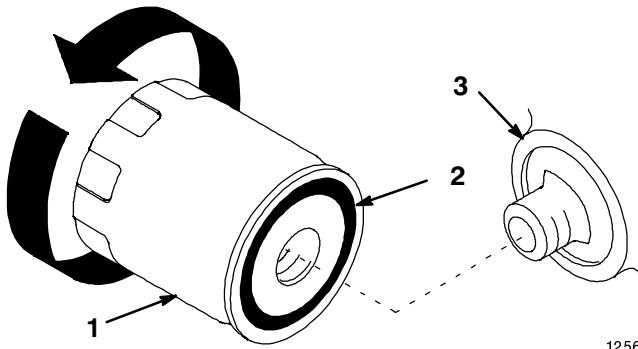

Figure 16
- Remove the old filter and wipe the filter adapter (Fig. 16) gasket surface.
- Apply a thin coat of new oil to the rubber gasket on the replacement filter (Fig. 16).
- Install the replacement oil filter to the filter adapter. Turn the oil filter clockwise until the rubber gasket contacts the filter adapter, then tighten the filter an additional 1/2 turn (Fig. 16).